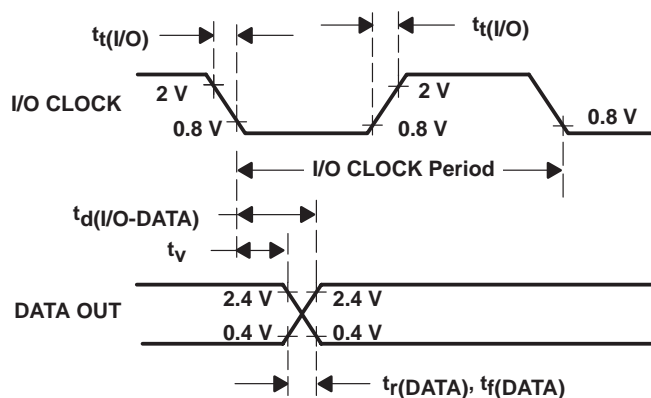

Figure 6. I/O CLOCK and DATA OUT Voltage Waveforms
10. I/O CLOCK period = $1/(I/O\text{ CLOCK frequency})$ (see Figure 6)